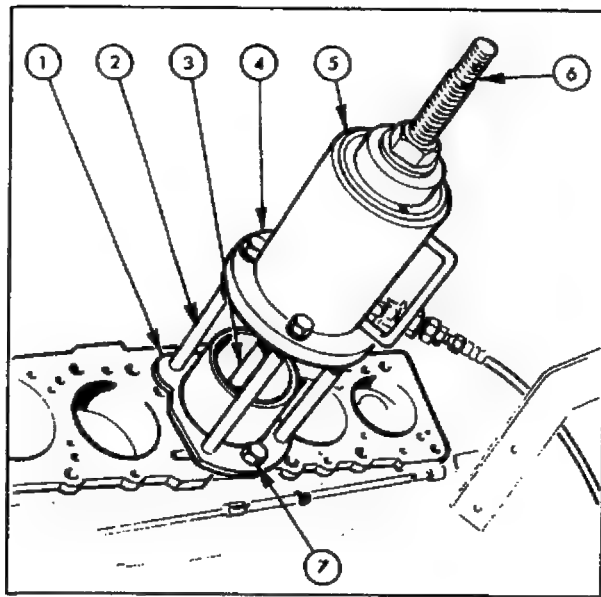

Fig. 9 - Cylinder Liner Removal
1. Screw the four support legs in the cylinder pressure plate, place the ram pressure plate onto the opposite end of the legs and retain with flat washers and nuts. Mount the assembly onto the cylinder block and fit the locating bolt (See Fig. 9).